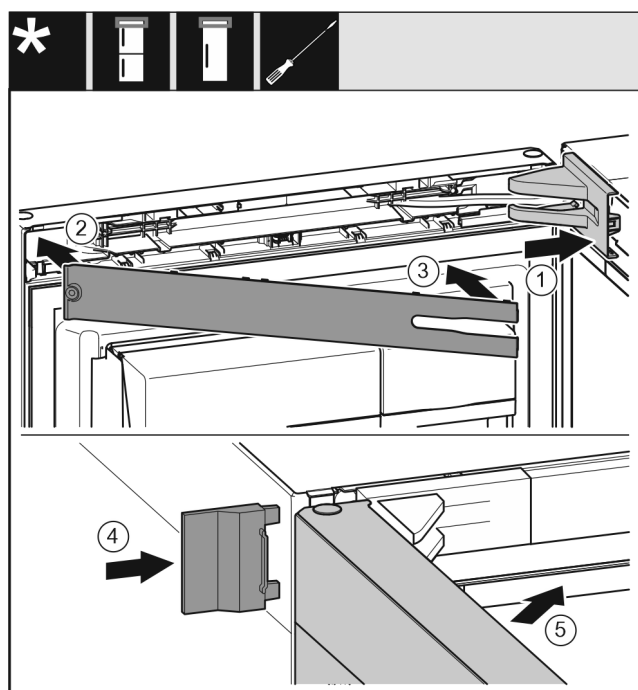

Fig. 23
- ▶ Position the bearing bracket cover and engage it. If necessary push it apart carefully. Fig. 23 (1)
- ▶ Place on the panel. Fig. 23 (2)
- ▶ Swing in the panel and latch it into place. Fig. 23 (3)
- ▶ Slide on the outer cover. Fig. 23 (4)
- ▶ Close the upper door. Fig. 23 (5)